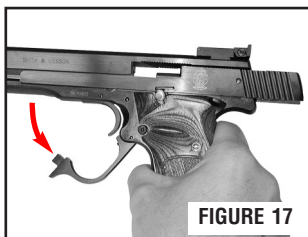

FIGURE 17
- While holding the pistol in the shooting hand, rotate the trigger guard down (FIGURE 17)